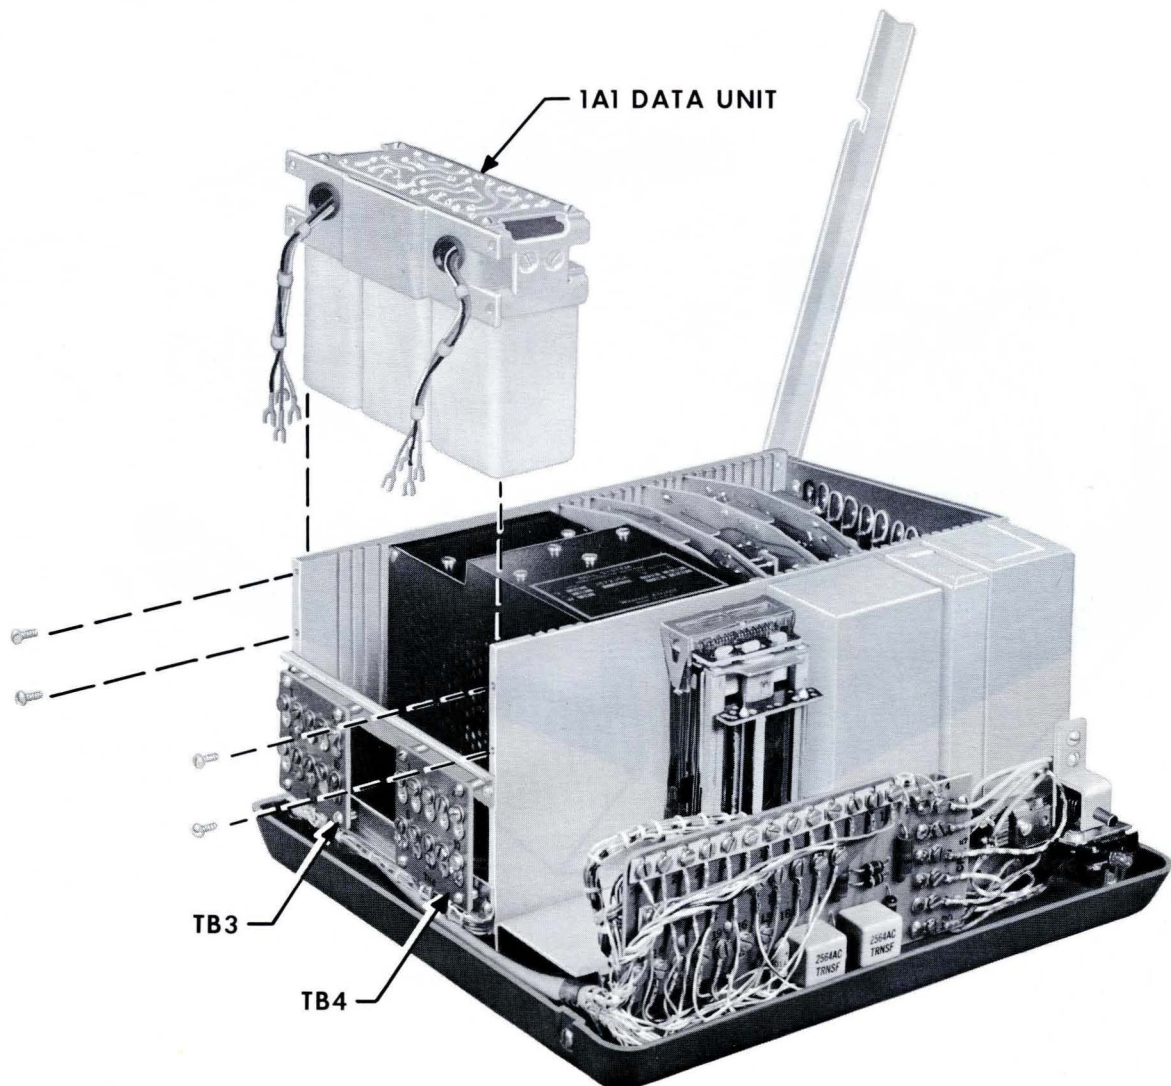

Fig. 3 - Mounting Detail for 1A1 Data Unit
2.07 Data set 202D can be obtained with reverse channel (202D2) or without reverse channel (202D1). The data unit 1A1 (reverse channel) can later be added or removed as required. Fig. 3 shows mounting detail for the data unit. (Refer to Section 592-016-300 for connections.)